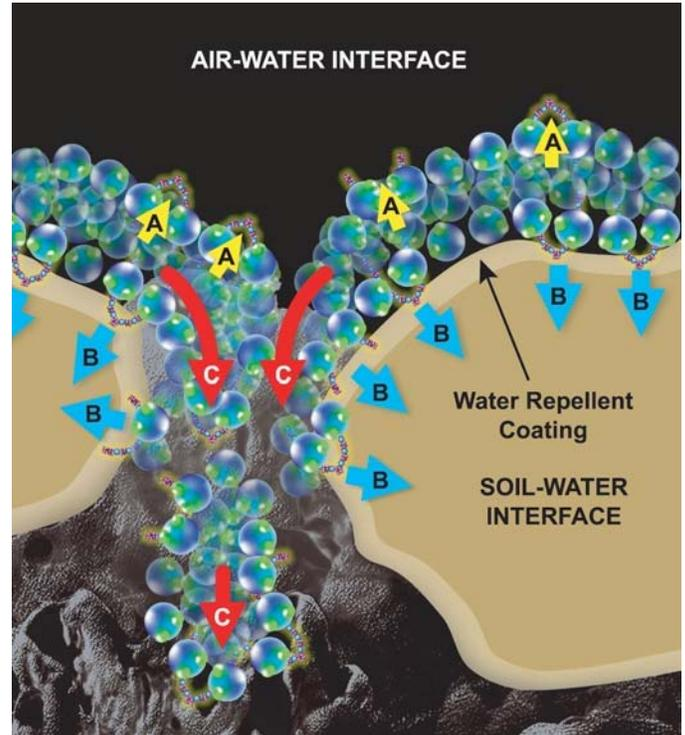

Figure 1. Stringer Injectable Mode-of-Action
Penetration. When injected through irrigation systems, Stringer Injectable surfactant molecules migrate to the water droplet surface (Fig. 1). The surfactant's nonpolar end ("tail") is positioned outside the water boundary and its polar end ("head") is positioned just inside the surface of the water droplet. At the air-water interface (A), water molecules move outward towards the polar end of the surfactant. This reduces surface tension and reduces the "beading" effect of water droplets which allows water to spread when it contacts solid surfaces. Water treated with Stringer Injectable becomes less prone to hanging up in the thatch or surface litter, thus facilitating penetration through these barriers as it moves toward the soil surface.